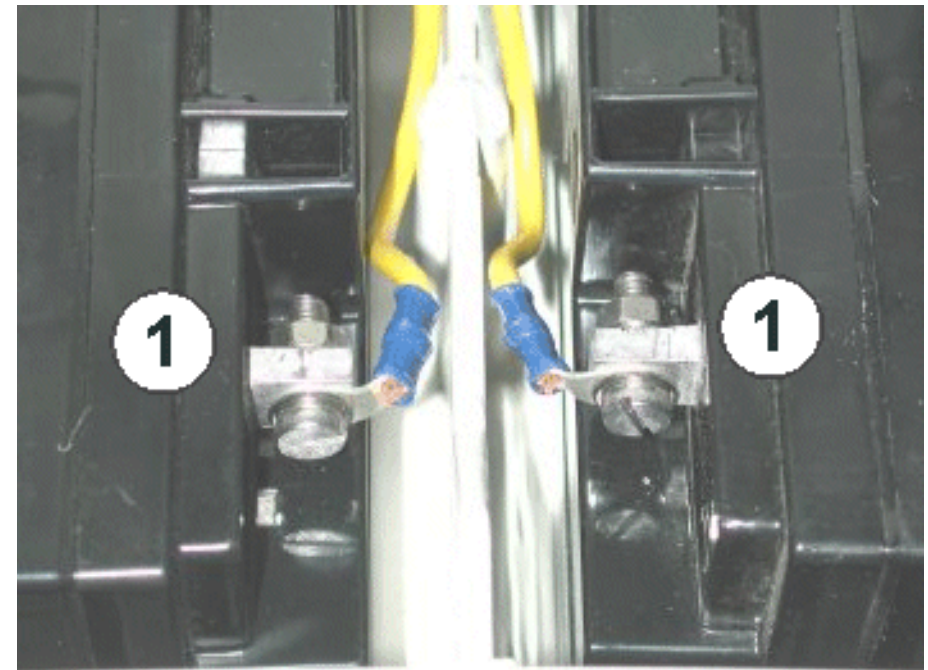

Fig. 6 Fuse carrier connections
- 6 Remove nuts, washers, split washers, and screws (Fig. 6/1).